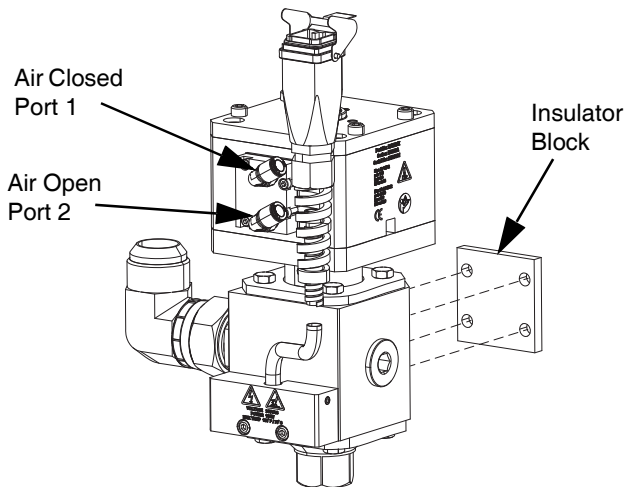

FIG. 4
- b. For valves with a remote mounted Solenoid (J), connect the air open line to port 2, and connect the air closed line to port 1. See FIG. 4.
5. Connect the fluid line to the JIC Port (F) in the valve body.
6. For heated valves, connect the Wire Harness Connector (AA) to the heated hose receptacle.